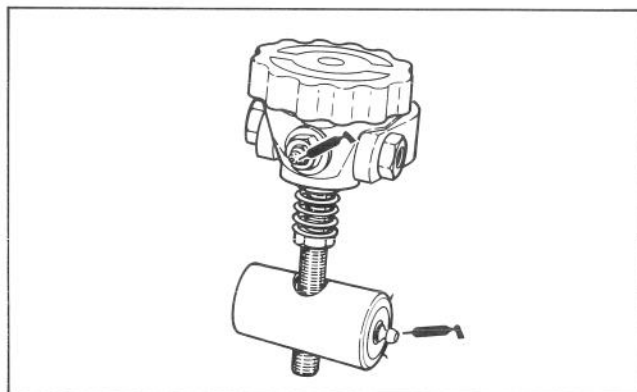
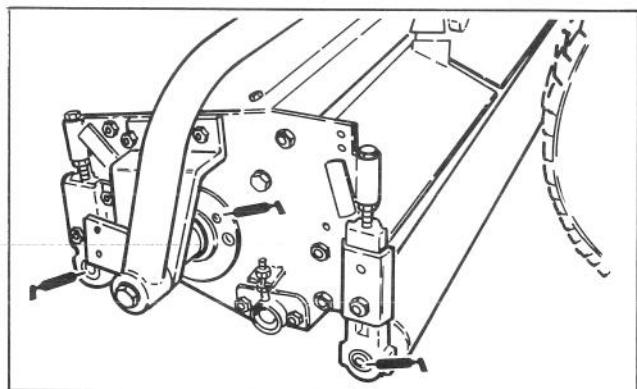

Figure 29
Figure 30
The cutting unit lubrication points are: Single point adjustment knob (2) (Fig. 29), reel flange bearing (2) (Fig. 30) and front and rear rollers (Fig. 30).